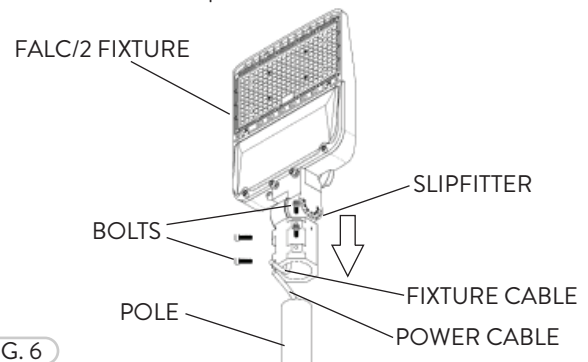

FIG. 6
- 2 The Slipfitter (inside diameter 2 3/8") can be mounted to fit 2" Nominal Round Poles. Loosen the Slipfitter Bolts or remove if needed. Attach the Power Cable to the Fixture Cable and install the FALC/2 fixture with the Slipfitter onto the Pole (Fig. 6). Tighten the bolts to secure the Slipfitter to the Pole.